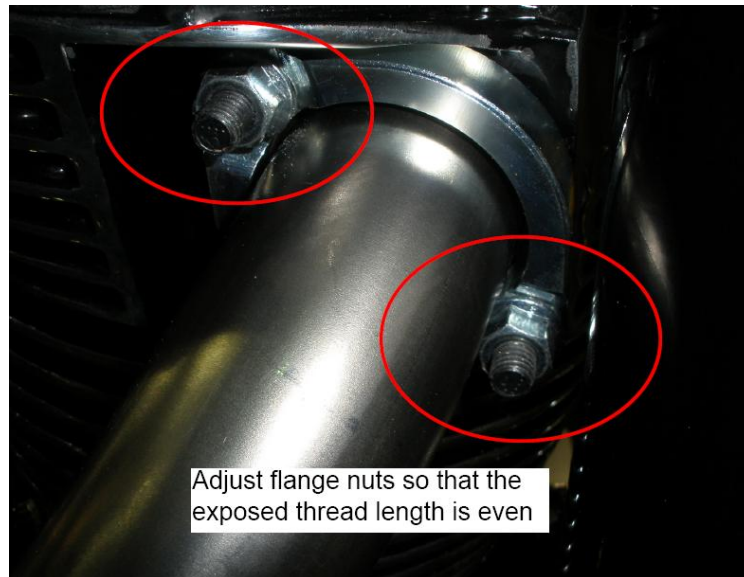

Fig. 4: Flange Nut Detail
8.) Adjust Exhaust Flange nuts evenly to within one thread pitch. Apply 3 to 5 strokes per each flange nut. Alternate between the Front and Rear Headpipes. Repeat as necessary and slowly until final torque is achieved. (Fig. 4)